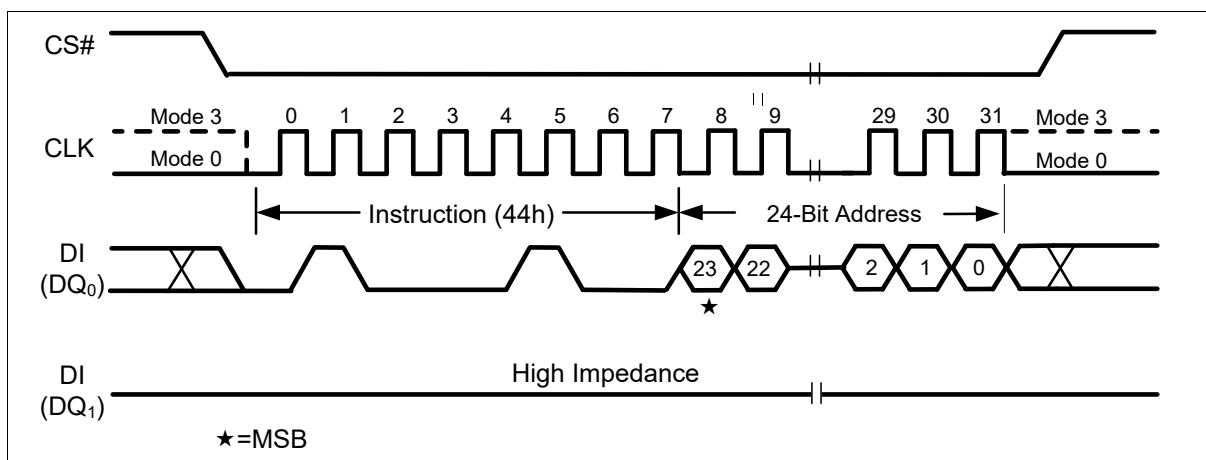

Figure 36 Erase Security Sectors Instruction (SPI Mode)
The Erase Security Sector instruction sequence is shown in Figure 36. The CS# pin must be driven high after the eighth bit of the last byte has been latched. If this is not done the instruction will not be executed. After CS# is driven high, the self-timed Erase Security Sector operation will commence for a time duration of t_{SE} (See “11.6AC Electrical Characteristics”). While the Erase Security Sector cycle is in progress, the Read Status Register instruction may still be accessed for checking the status of the WIP bit. The WIP bit is a 1 during the erase cycle and becomes a 0 when the cycle is finished and the device is ready to accept other instructions again. After the Erase Security Sector cycle has finished the Write Enable Latch (WEL) bit in the Status Register is cleared to 0. The Security Sector Lock Bit (LB) in the Status Register-2canbeusedtoOTProtecttheSecurity Sectors. Once the LB bit is set to 1, the Security Sector will be permanently locked, Erase Security Sector instruction will be ignored.